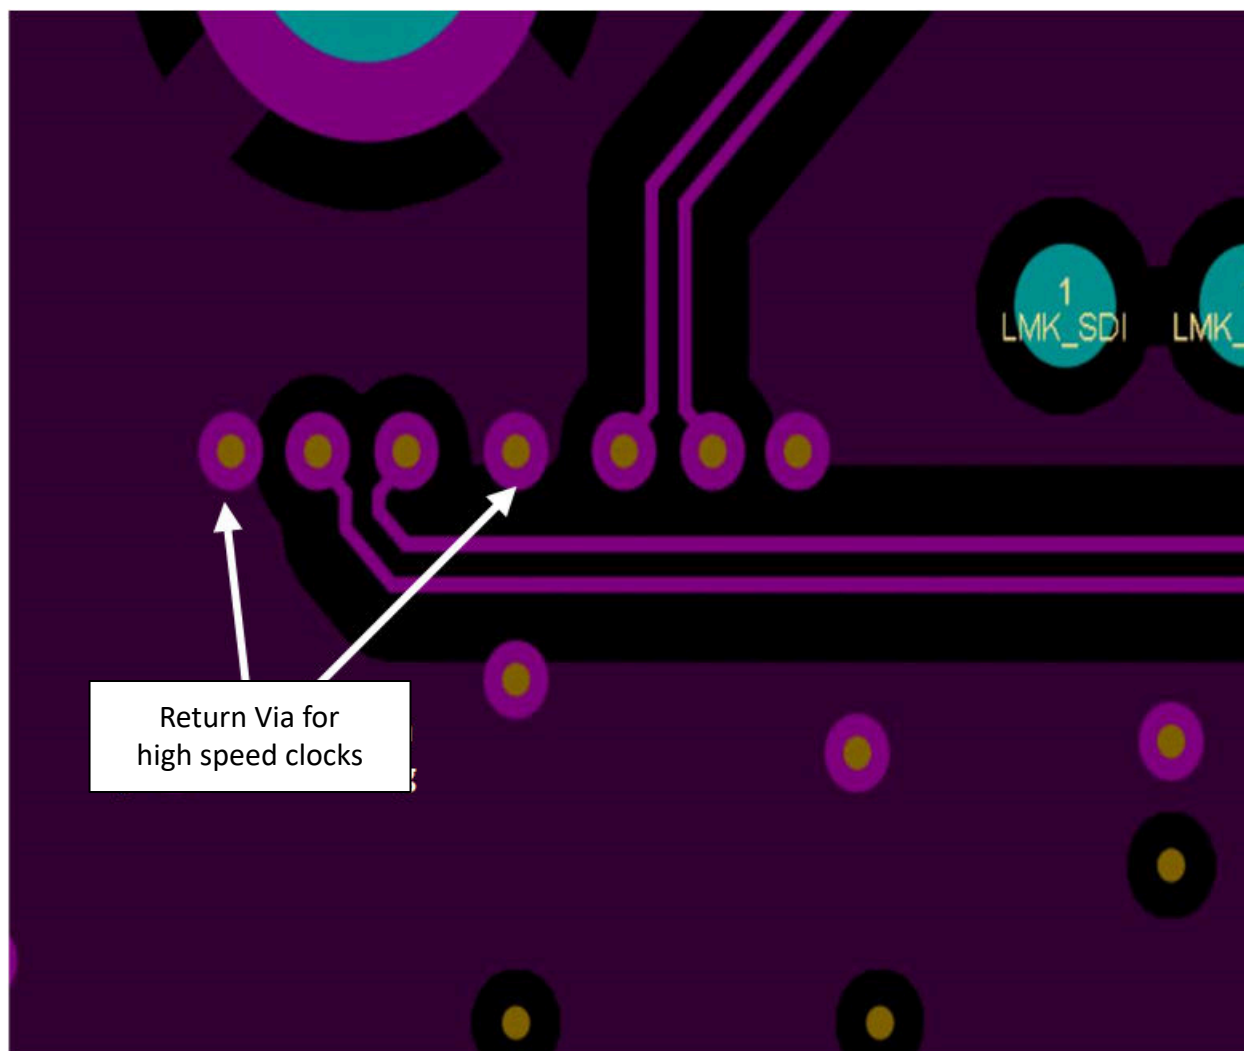
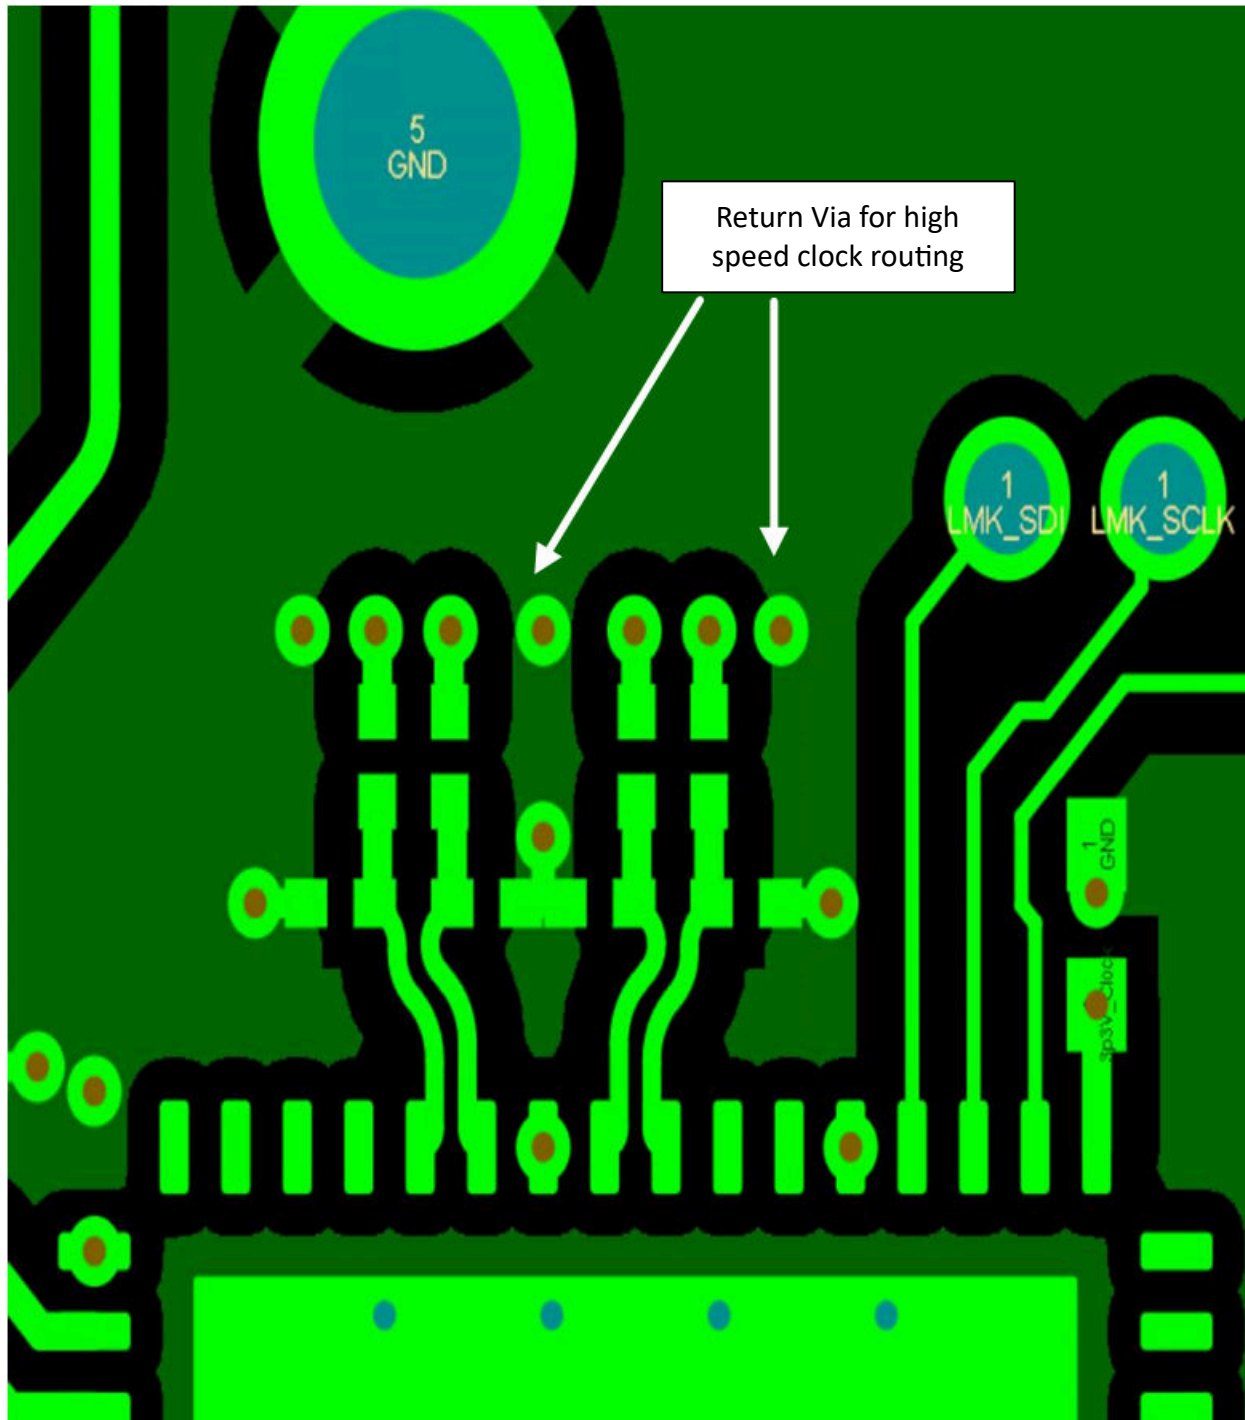

図 8-26. Return Vias for High Speed Clock
図 8-27. Return Vias for High Speed Clock Near Clock Generator
8. When high-speed signals must transition to another layer using vias, transition as far through the board as possible (top to bottom is best case) to minimize via stubs on top or bottom of the vias. If layer selection is not flexible, use back-drilled or buried, blind vias to eliminate stubs. Always place two ground vias (“return vias”) close to critical high-speed signal trace via when transitioning between layers to provide a nearby ground return path. See 図 8-26 and 図 8-27 as examples.